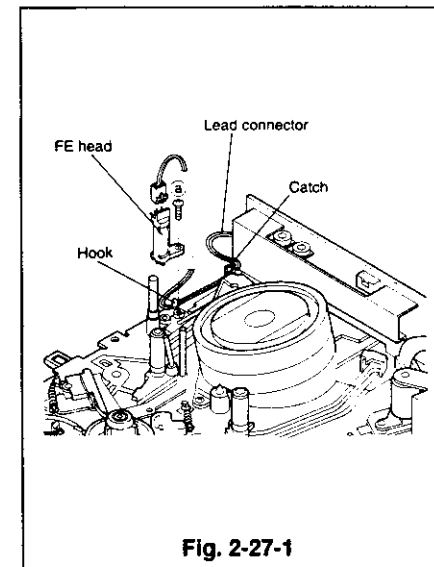

Fig. 2-27-1
## 2-27 FE Head (Refer to Fig. 2-27-1.)
- 1 Secure the FE head with the screw (a) and connect the lead connector to the FE head. (Route the lead connector, which is fastened with the catch as shown in Fig. 2-27-1, through the hook of the main plate.)